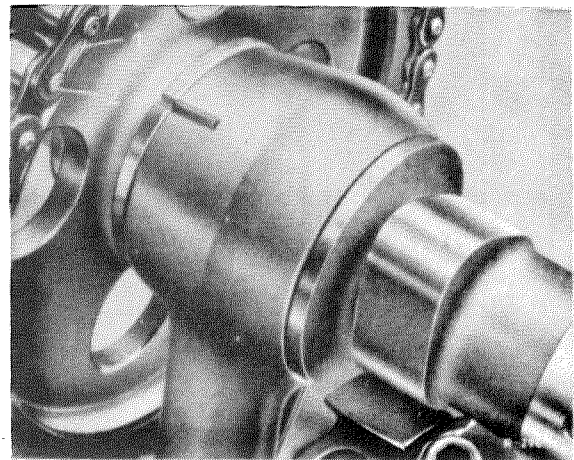

Fig. 01—4/53
3. Unscrew stretch screws for fixing the rocker arm blocks and remove blocks together with rocker arms. When removing the rocker arm blocks, turn camshaft each time to the position where the rocker arms are not under load (see Fig. 01—4/17).
Insert jointing link (2) from front to rear (contrary to direction of travel). Fit spring clip (1) with its closed end pointing in the direction the timing gear turns (Fig. 01—4/53).
7. Press back the tension sprocket bearing as far as it will go, using Bleeder Lever 187 589 02 63, or, if necessary, with a screwdriver, at the same time continually topping up the oil case in the cylinder head with warm engine oil (see Fig. 01—4/14). Now gradually release the sprocket bearing with the lever or screwdriver, at the same time continually topping up with oil, so that the oil case is always full of oil and the chain tensioner cannot suck in any air. Then "pump" the tension sprocket bearing until no more air bubbles can be seen at the chain tensioner. The important thing is to maintain the necessary oil level during the bleeding process.
Check whether the spring clamps have engaged in the notches in the rocker arm blocks (see arrow in Fig. 01—4/15).
When installing the assembled rocker arms, turn the camshaft to the position where the rocker arms are not under load (Fig. 01—4/17).